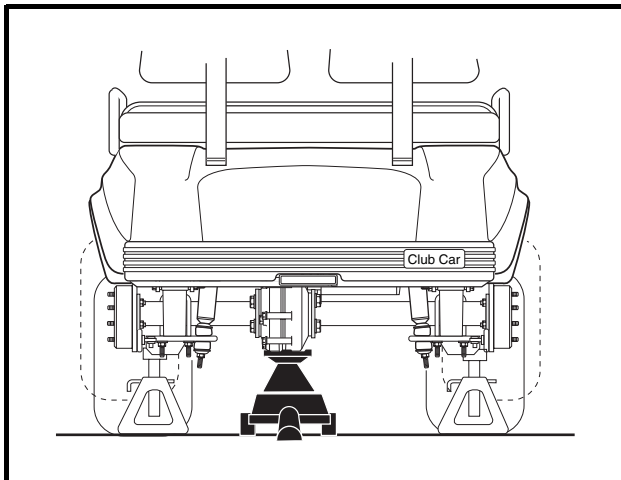

Figure 16-2 Lift Vehicle with Floor Jack
4. Place floor jack under transaxle and raise rear of vehicle (**Figure 16-2, Page 16-3**) then place jack stands under frame crossmember between the spring mount and the side stringer, just forward of each rear wheel. Lower the vehicle to let the jack stands support the vehicle (**Figure 16-3, Page 16-3**). See following **WARNING**.